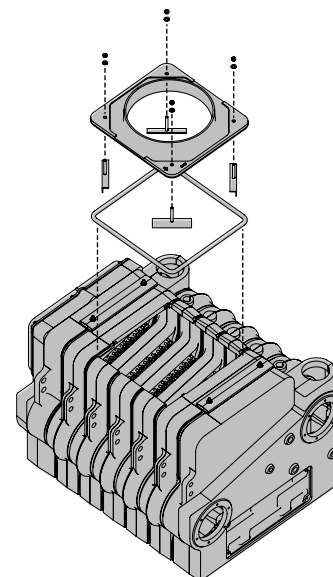

Figure 2.13: Top Flue Collar Attachment
- b) Secure the plate and compress using the 3/8" tie down assembly, nuts and washers provided. See Figure 2.13.